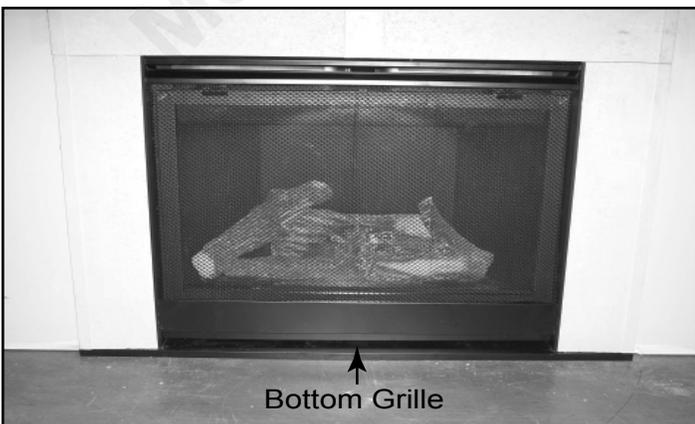

Figure 12.18 Attach Bottom Grille
- Attach the bottom grille by aligning slots of bottom grille with the formed clips on surround trim strips. See Figure 12.18. Push in on grille to engage clips.